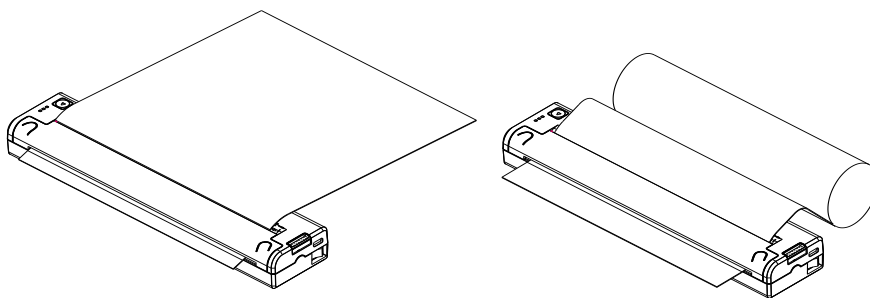

Fig.2-2
1. As shown in Fig. 2-2, place a single A4 paper or roll directly into the paper inlet (smooth side down), and automatically detect and inhale appropriate paper length. Press  to adjust the feeding length manually.